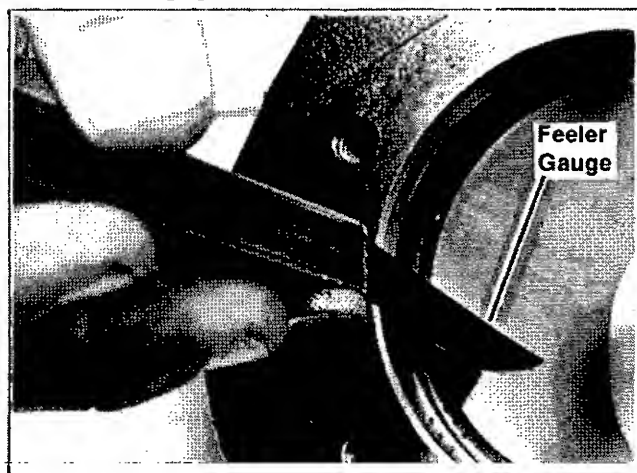

Figure 7-11. Checking Ring End Gap In Bore
3. Before installing new rings on piston, place top two rings each in turn in its running area in cylinder bore and check end gap (see Figure 7-11). This gap should be $.010"/>.030$ in a used